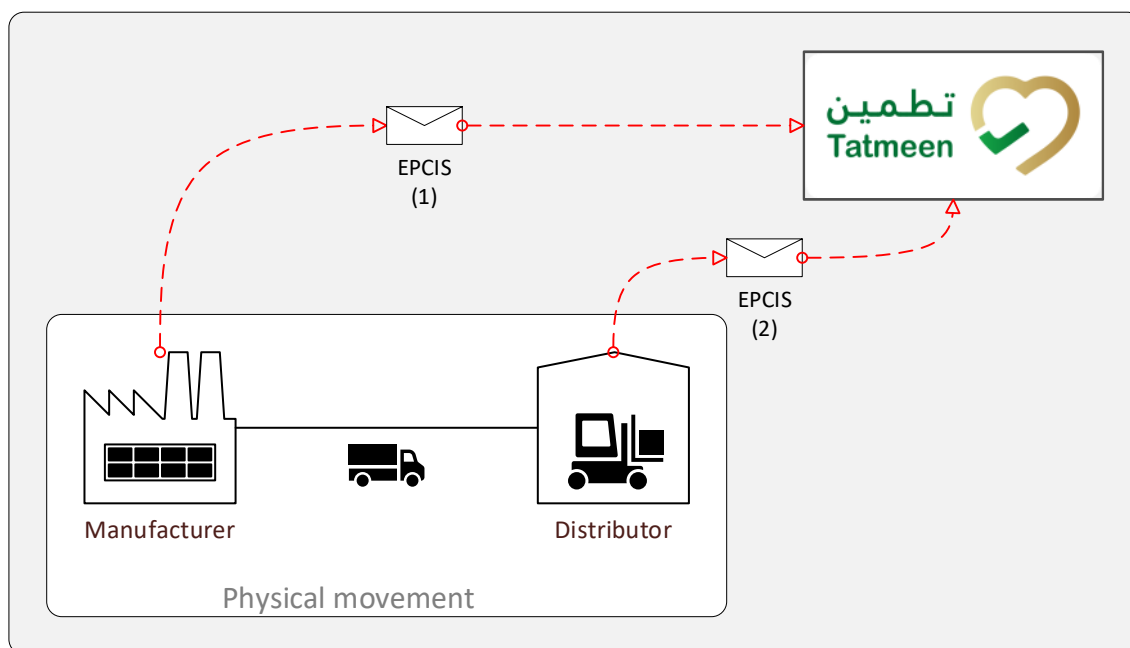

Figure 5 Processing Drugs from Local (Domestic) Manufacturers
This outline refers to Figure 5, above. Note that in the description below there is reference to a Local Sales Permit that is still not in place, however this illustrates the intent.
- d. Once the Manufacturer receives the Local Sales Permit and has identified the top-level hierarchy items scheduled for UAE market release, then they must send a single EPCIS message ("EPCIS (1)" in Figure 5) containing the Local Sales Permit